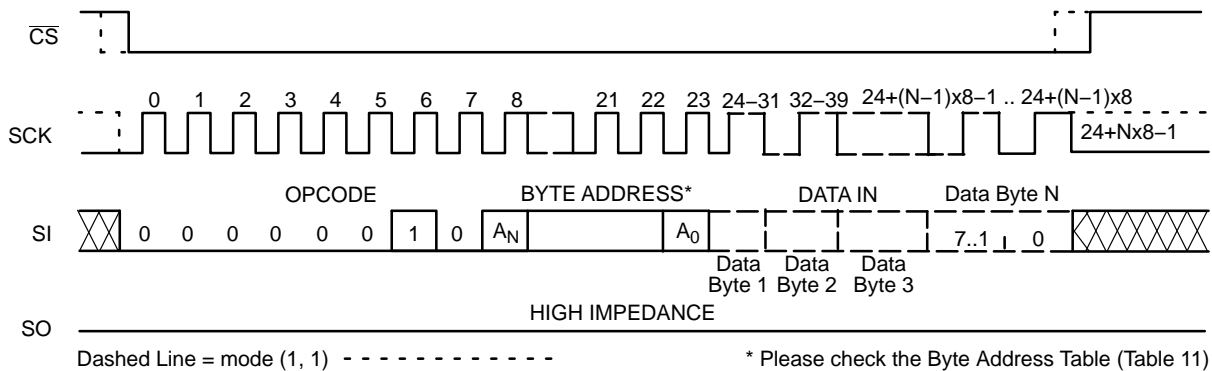

Figure 6. Page WRITE Timing
After sending the first data byte to the NV25256, the host may continue sending data, up to a total of 64 bytes, according to timing shown in Figure 6. After each data byte, the lower order address bits are automatically incremented, while the higher order address bits (page address) remain unchanged. If during this process the end of page is exceeded, then loading will "roll over" to the first byte in the page, thus possibly overwriting previously loaded data. Following completion of the write cycle, the NV25256 is
The additional 64-byte Identification Page (IP) can be written with user data using the same Write commands sequence as used for Page Write to the main memory array (Figure 6). **The IPL bit from the Status Register must be set (IPL = 1) using the WRSR instruction, before attempting to write to the IP.**